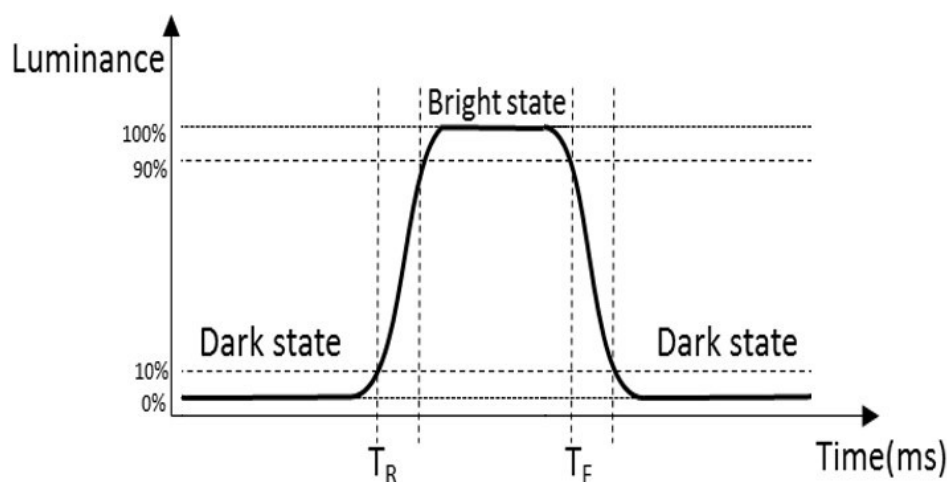

Figure 5. The definition of TR and TF
Measured response time is determined by rise time (TR) and fall time (TF) , and shown in Figure 5.
(4) Definition of Viewing angle: